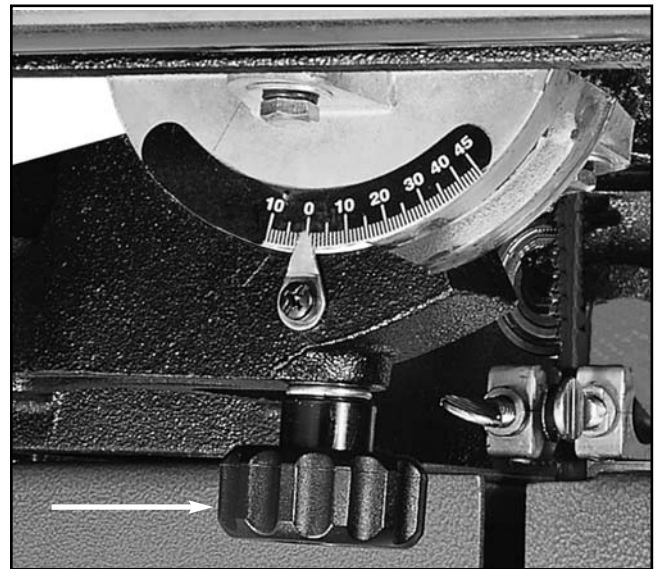

Figure 18. Trunnion lock knob.
1. Loosen the two knobs below the trunnions. See Figure 18 for knob location.